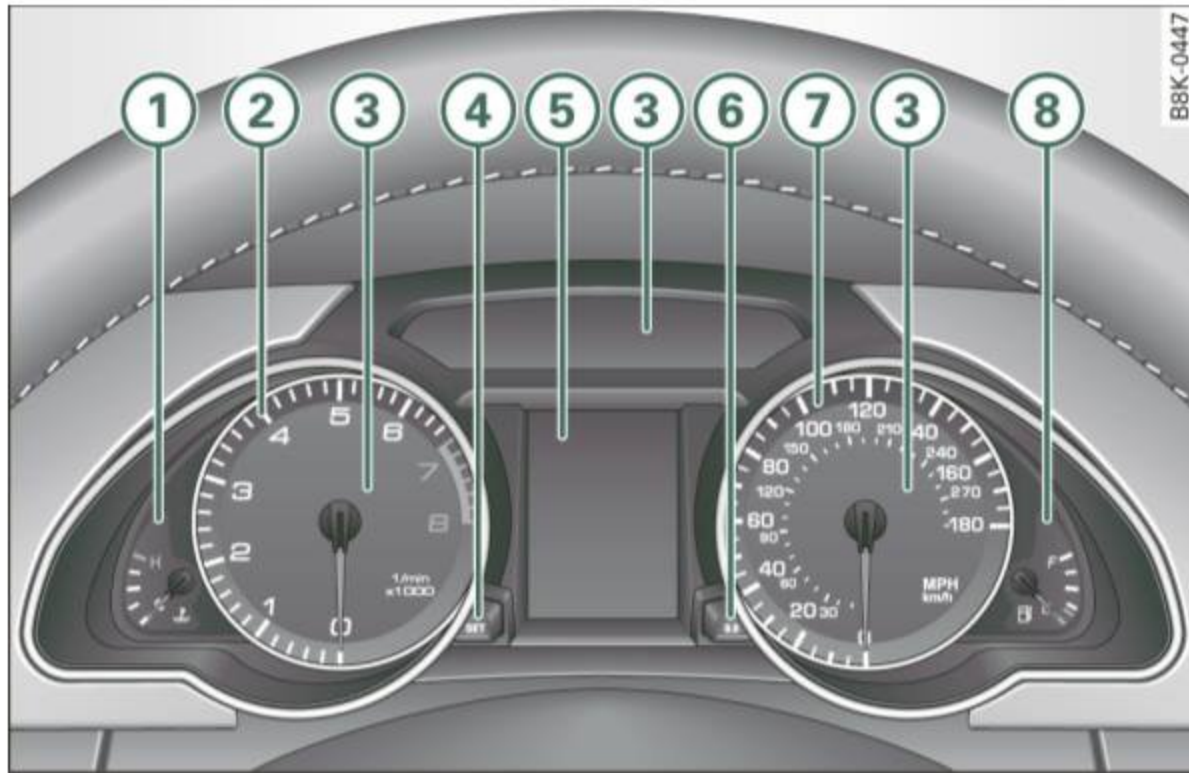

Fig. 2 Overview of the instrument cluster
The engine coolant gauge ⇒ fig. 2 ① only works when the ignition is on. To prevent damage to your engine, please note the following important points:
The tachometer needle  ⇒ *page 10*, fig. 2 should only briefly be in the red zone: you could damage your engine! The beginning of the red zone varies depending on the engine.